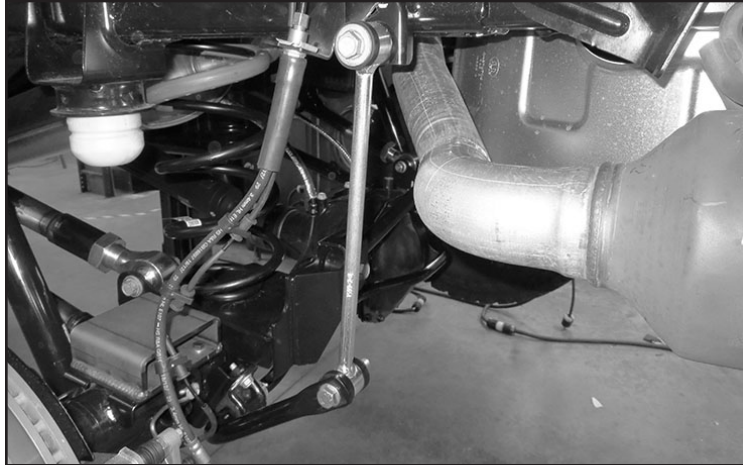

FIGURE 33 - STEP 27
27. Install the FT1004 (Half bushings) and FT404739 (Sleeves) into FT1599-2-4 (Rear sway bar links). Then, install the new links to the sway bar and sway bar mount on the frame using supplied M12 x 70mm bolt and large O.D. washer for the upper location and M12 x 70mm bolt regular washer, large O.D. washer and nut for the lower. Use the larger washer on the nut side. **NOTE: The new end link will need to be installed on the inside of the sway bar and axle mount.** Torque to 65 ft-lbs **SEE FIGURE 33**